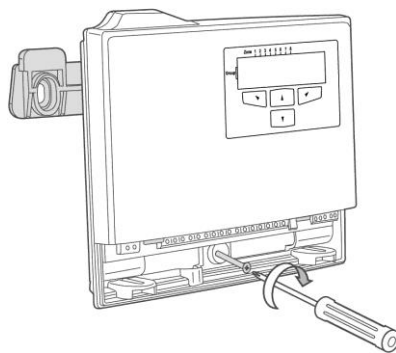

Figure 3: Installing the Third Screw
6. Assemble the **FW2 MERLIN PRO** on the bracket and fix using the third screw (see Figure 3).